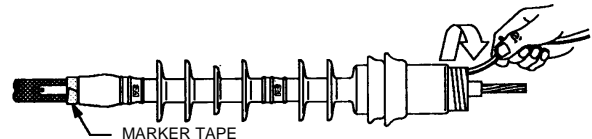

Figure 6
3. Slide the termination body onto the cable, aligning the base with previously applied marker tape (**Figure 6**).
4. Remove termination core unwinding counter-clockwise starting with the loose end. Make sure the termination body is butted up to the edge of the marker tape (**Figure 6**). **TIP: An occasional tug of the core strand while unwinding will aid in core removal.**